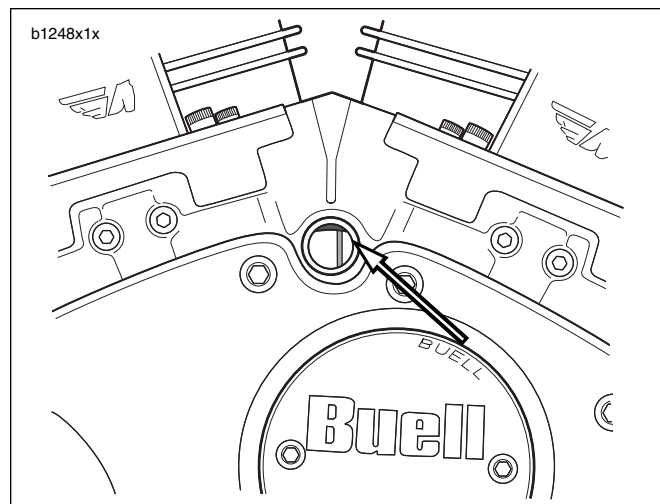

Figure 1-56. Retard Timing
4. See Figure 1-56. If timing is retarded (mark appears on right side of window) rotate timing plate clockwise.